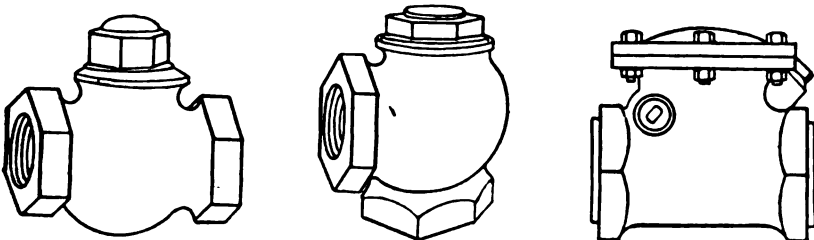

Fig. 85.—Check Valves.
A. Fig. 85 illustrates several types of check valves. When it is necessary that the supply of steam or water should flow always